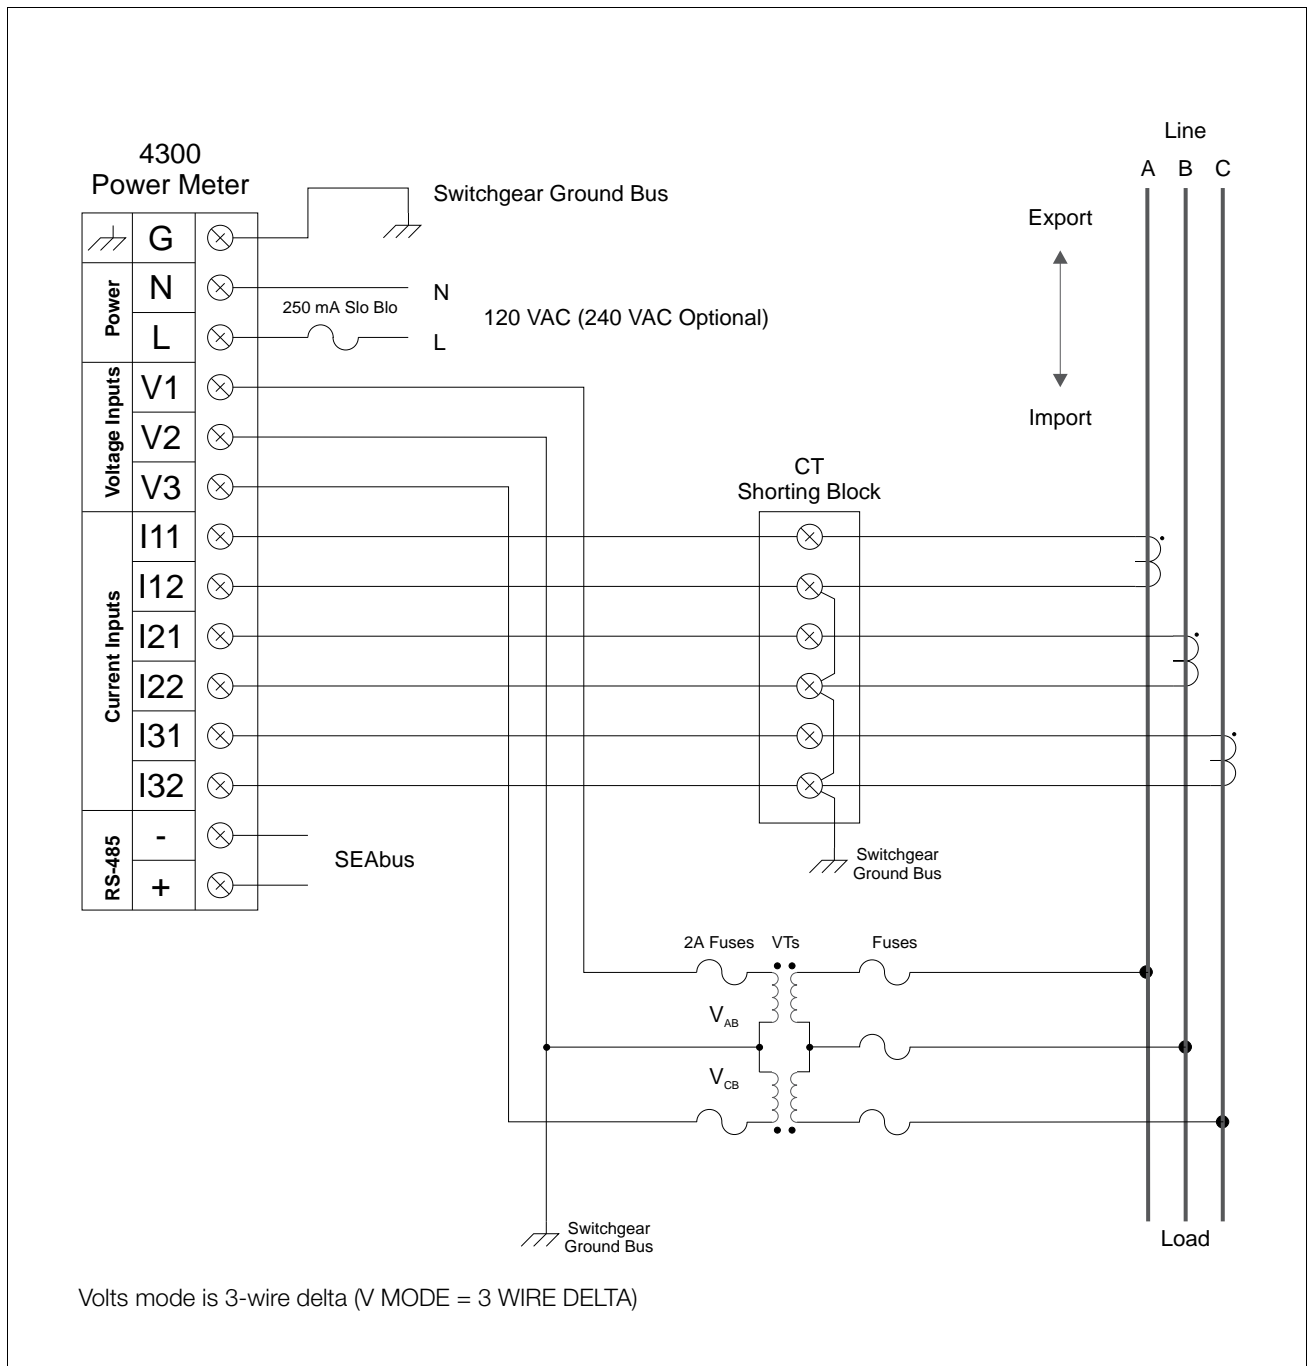
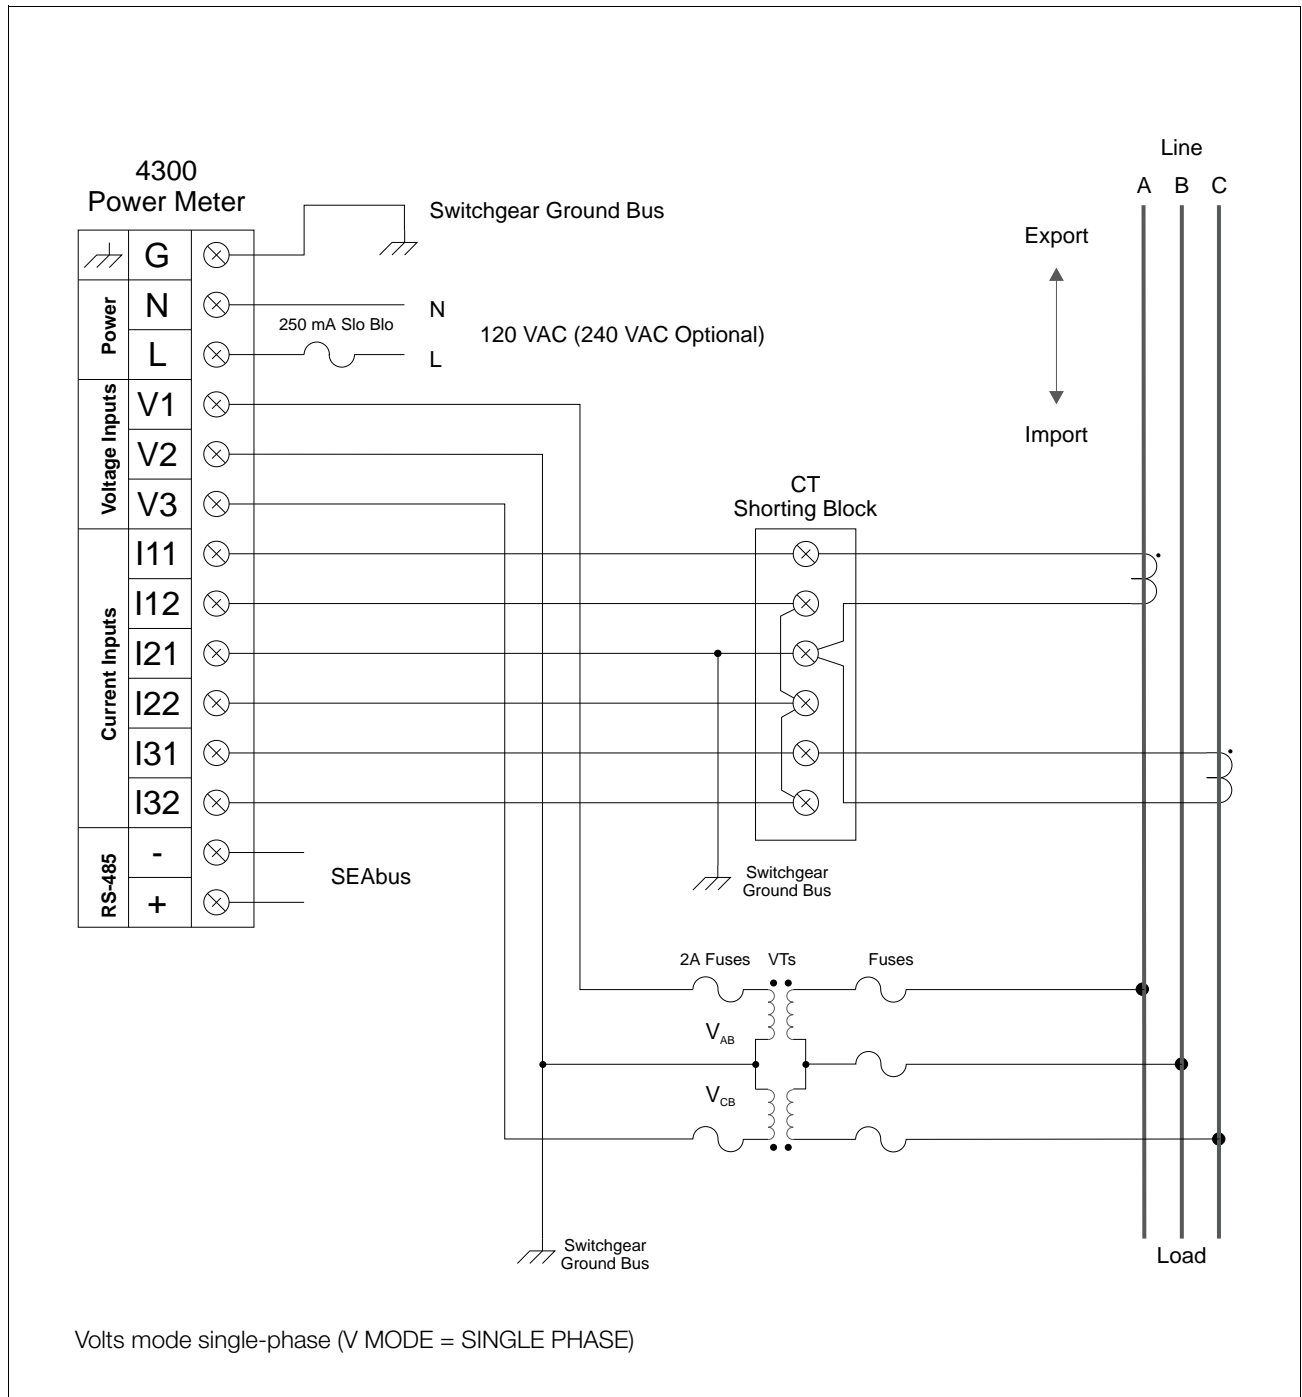

Figure 2.5 Three-Wire Delta, 2 1/2-Element Connection Using Two VTs and Three CTs
Figure 2.6 Three-Wire Delta, 2 1/2-Element Connection Using 2 VTs and Two CTs
- Three-Wire Delta, 2 1/2-Element Connection Using Two VTs and Three CTs (**Figure 2.5**)
- Three-Wire Delta, 2 1/2-Element Connection Using 2 VTs and Two CTs (**Figure 2.6**)
In these open configurations, connect the 4300 power meter using VTs and either three or two CTs. **Figure 2.5** and **Figure 2.6** illustrate delta connections using three and two CTs respectively.